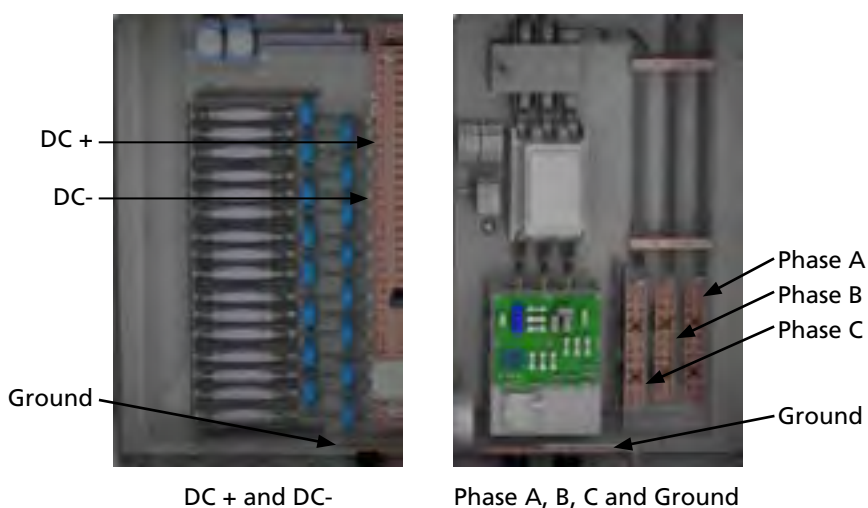

Figure 4-14 DC and Phase Inverter Connections
5. Connect the wire from Phase A of the AC panel to the terminal marked 'PHASE A' on the AC terminal inside the inverter. Refer to Figure 4-14.
6. Connect the wire from Phase B of the AC panel to the terminal marked 'PHASE B' on the AC terminal inside the inverter. Refer to Figure 4-14.
7. Connect the wire from Phase C of the AC panel to the terminal marked 'PHASE C' on the AC terminal inside the inverter. Refer to Figure 4-14.
The three DC busbars, positive, negative and ground are located in the lower left of the DC panel. Refer to Figure 4-14. The positive and negative bars are vertically mounted and the ground bar is horizontally mounted at the bottom of the cabinet. The positive and negative busbars have 32 rows of two 3/8" diameter holes spaced 1" apart vertically. The ground bar has 12 rows of two 3/8" diameter holes spaced 1" apart. See *Appendix D*, Table D-10 for wire sizing limits for inverters with an optional fused subcombiner.
Follow these steps to wire the DC inputs from the PV panels to the inverter. These instructions are for a negatively grounded array. For a positively grounded array, use the opposite terminals. Refer to Figure 4-14.
6. Connect positive DC lead(s) to the positive terminals located on the busbar or fuse holder as applicable. Refer to Figure 4-14. Use Grade 8 3/8" hardware to secure the lugs of the incoming DC cables to the busbar. The DC landing torque spec is 40 ft-lbs.
7. Connect negative DC lead(s) directly to the negative terminals located on the busbar or fusing as shown in Figure 4-14. Use Grade 8 3/8" hardware to secure the lugs of the incoming DC cables to the busbar. The DC landing torque specification is 40 ft-lbs.